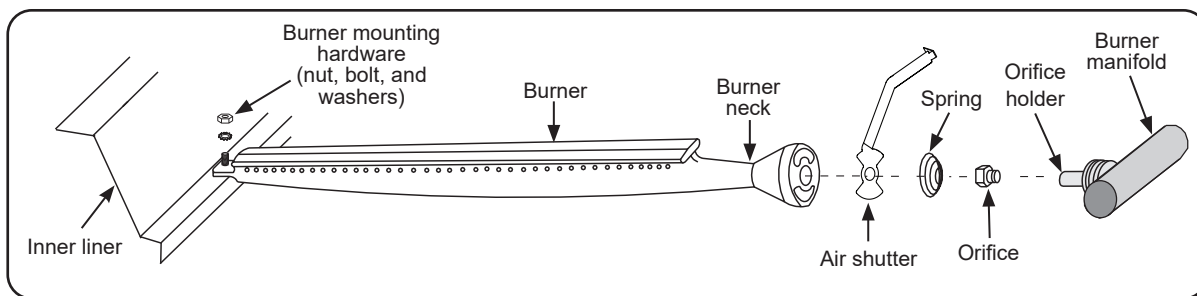

Fig. 36-1 Burner installation diagram
3. Locate and remove the nut, washers, and bolt on the left side of the unit that are securing the burner (see Fig. 36-1).
- a. Install the air shutter spring, then the air shutter over the orifice holder fitting in the order and position as shown in Fig. 36-1.